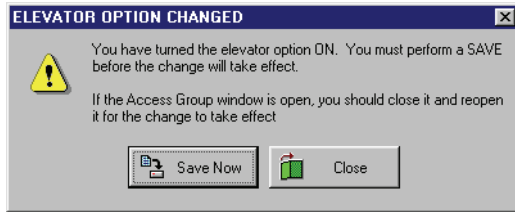
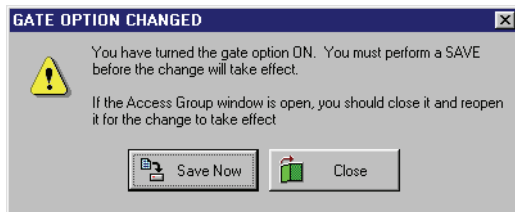
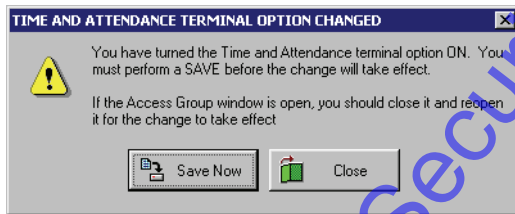

Figure 2-16: Elevator Option Changed Warning - ON
Figure 2-17: Gate Option Changed Warning - ON
Figure 2-18: Time and Attendance Terminal Option Changed Warning - ON
- To enable elevator, gate, or time and attendance terminal control, click in the box beside Elevator ON, Gate ON, or Time and Attendance Terminal ON. A check mark appears in the check box and one of the following windows appear, depending on which box was checked (see Figure 2-16, Figure 2-17, and Figure 2-18).